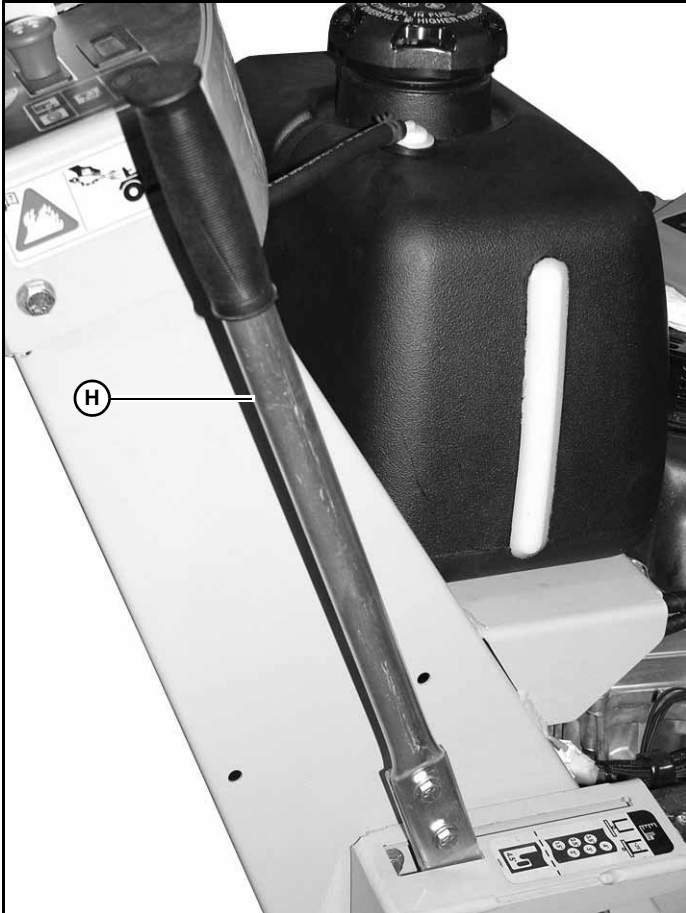

Figure 3-3
- H. Deck lift lever (Figure 3-3)** — the deck lift lever is used to raise or lower the deck. Pull rearward on the lever to raise the deck and then place the deck height locking pin into the desired cutting height hole.